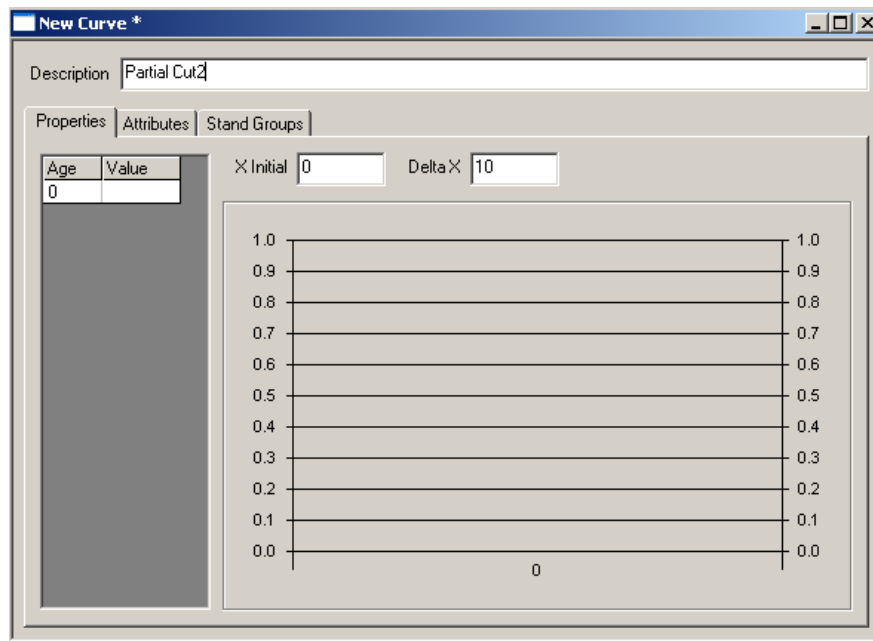

Figure 51: New curve window.
- 8.1.3 Select the *Properties* tab. The *Curve* window should look similar to that shown in figure 51.